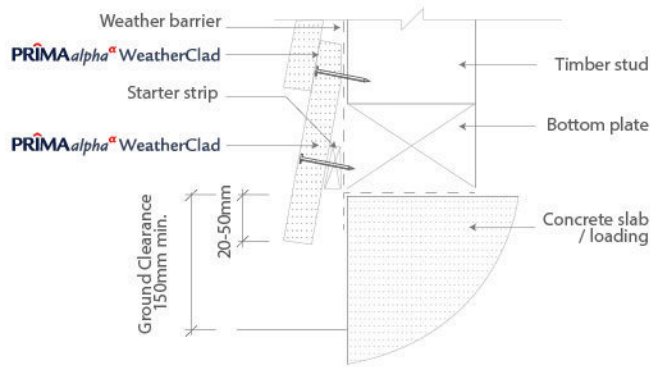
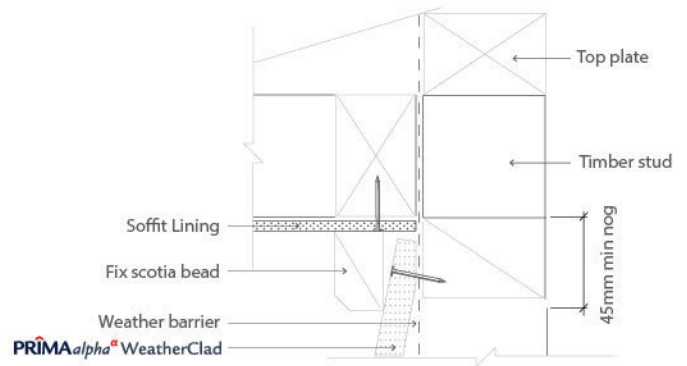

Figure 3: Foundation Detail
Figure 4: Soffit Detail
Provide a minimum of 150mm ground clearance between the bottom edge of **PRIMA^{alpha}** WeatherClad (or starter strip) and the earth as shown in Figure 3. The plank must be overhang at the bottom plate on a concrete slab by 20- 50mm. Maintain a minimum of 50mm clearance between **PRIMA^{alpha}** WeatherClad and roofs and decks, refer **Figure 4**.
7. Fix the first siding starting from external corner. Fasten the bottom edge of the siding to each stud or bottom plate through the starter strip, refer Figure 3.